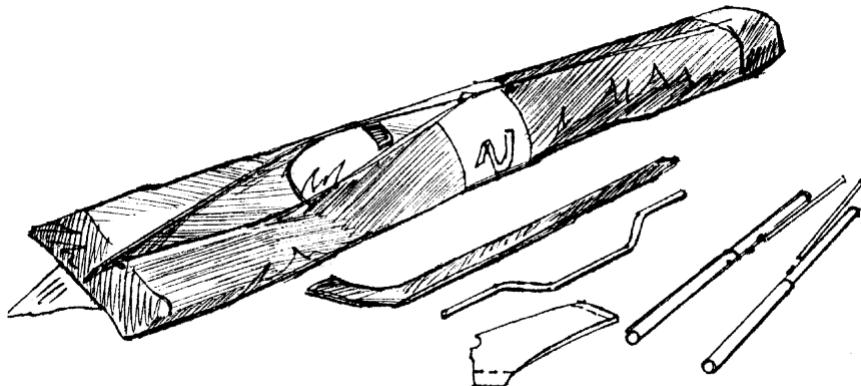

Fig. 32
2.3.1. Undo the zipper. Remove the Velcro straps. Remove the battens in the bags, the speedbar, and the nose cone and assembled N3-N4 leading edge tubes (Fig. 32).